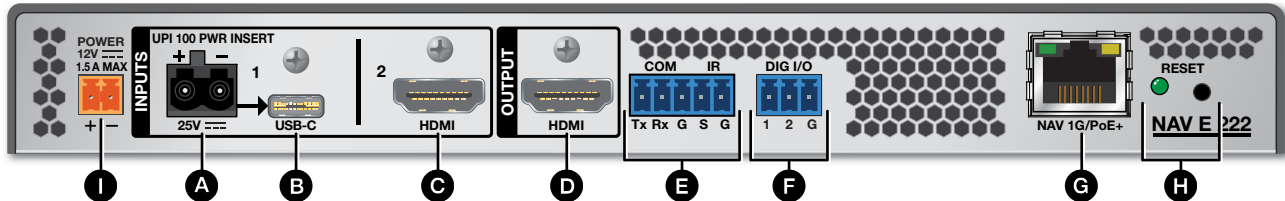
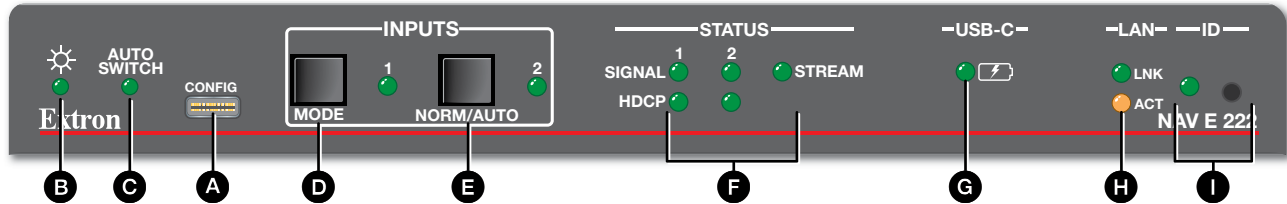

Figure 1. NAV E 222 Rear Panel Features
Figure 2. NAV E 222 Front Panel Features
- D Input 1 (MODE) button and LED** — In **manual switch mode**, press and release to select input 1 (USB-C video, see figure 1, **B** on page 1) for output on the NAV 1G/PoE+ port (**G**). The LED indicates input 1 is selected regardless of the switch mode. This button is also used to toggle auto-switch mode on and off (see Auto-Switch mode).
- Locally, from the optional external power supply, via the power connector (see figure 1, **I** on page 1).
Connection to the encoder and its embedded web pages can be made via either the front panel Configuration (USB) port (using IP over USB technology) (see figure 2, A on page 2) or the rear panel NAV 1G/PoE+ port (see figure 1, G on page 1).
1. Simultaneously press and **hold** the front panel **Input 1 (MODE)** button and the **Input 2 (NORM[al])/AUTO** button (see figure 2, D and E on page 2) for 3 seconds.